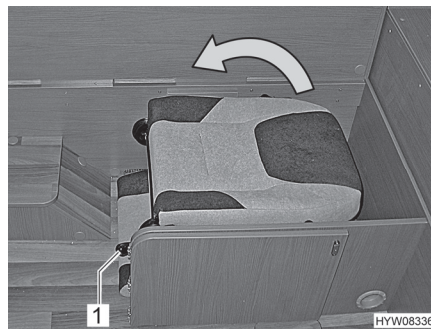

Fig. 27 Folding out the additional seat 1
- Press the lever (Fig. 27,1) down and hold it. Fold the backrest fully forwards.